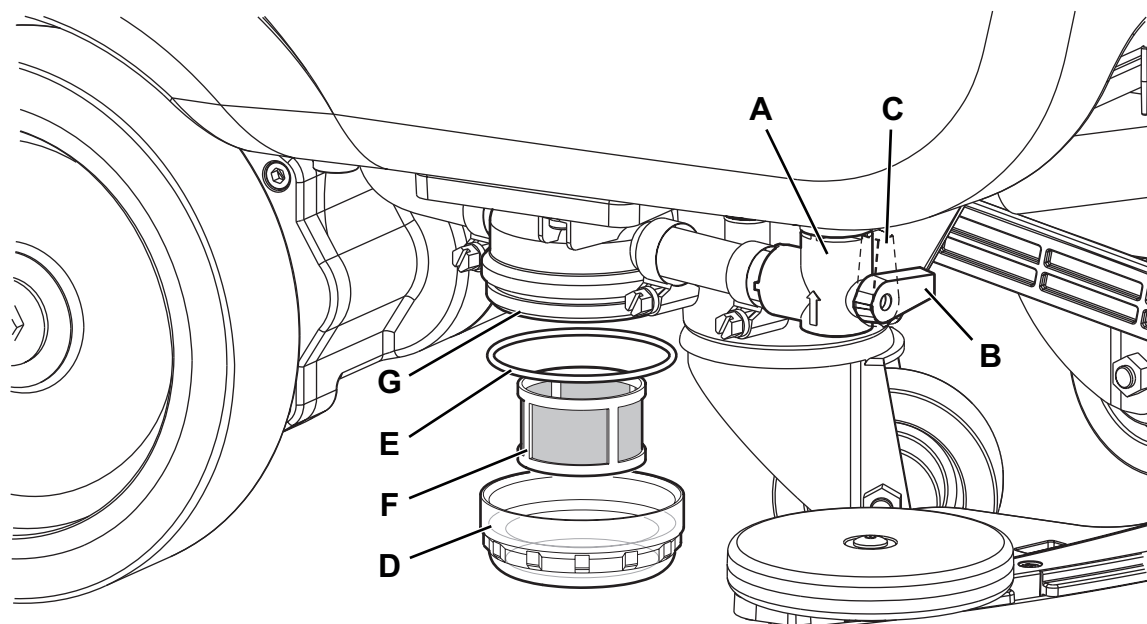

Figure 13
2. Ensure that the machine is off and the operator key (41) has been removed.
3. Close the washing water valve (A, Fig. 13). The valve is closed when it is in position (B) and it is open when it is in position (C).
4. Remove the transparent cover (D) and the gasket (E), then remove the filter strainer (F). Wash and rinse them, then refit them carefully onto the filter support (G).
5. Open the valve (A).